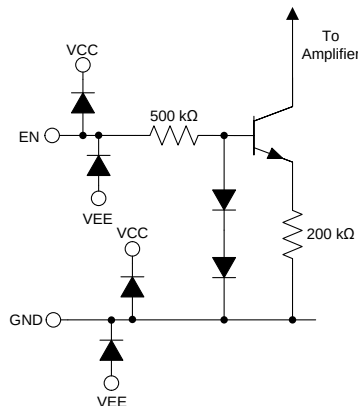

FIG 46. EN Pin Simplified Internal Schematic
The enable pin (EN) of the INA1620 is used to toggle the amplifier enabled and disabled states. The logic levels defining these two states are: $V_{EN} \leq 0.78 \text{ V}$ (shutdown mode), and $V_{EN} \geq 0.82 \text{ V}$ (enabled). These threshold levels are referenced to the device ground (GND) pin. The EN pin can be driven by a GPIO pin from the system controller, discrete logic gates, or can be connected directly to the V+ supply. Do not leave the EN pin floating because the amplifier is prevented from being enabled. Likewise, do not place GPIO pins used to control the EN pin in a high-impedance state because this placement also prevents the amplifier from being enabled. A small current flows into the enable pin when a voltage is applied. Using the simplified internal schematic shown in FIG 46, use Equation 4 to estimate the enable pin current:
As illustrated in FIG 46, the EN pin is protected by diodes to the amplifier power supplies. Do not connect the EN pin to voltages outside the limits defined in the Specifications section.
The inclusion of a ground (GND) pin in the INA1620 architecture allows the internal enable circuitry to be referenced to the system ground, eliminating the need for level shifting circuitry in many applications. The internal amplifier compensation capacitors are also referenced to this pin, greatly increasing the ac PSRR. For highest performance, connect the GND pin to a low-impedance reference point with minimal noise present. As shown in Figure 46, the GND pin is protected by ESD diodes to the amplifier power supplies. Do not connect the GND pin to voltages outside the limits defined in the Specifications section.